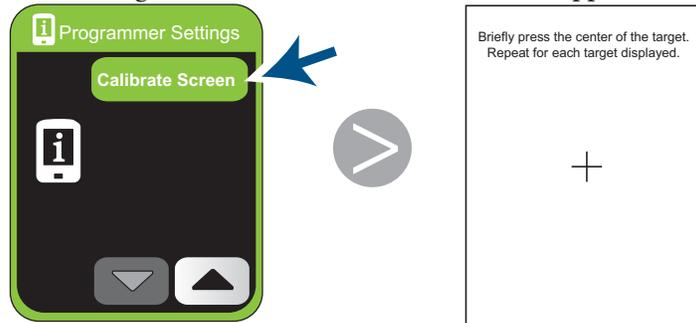

Figure 98. Displaying the calibrate screen
4. Tap  (Figure 98). The first calibration screen appears.